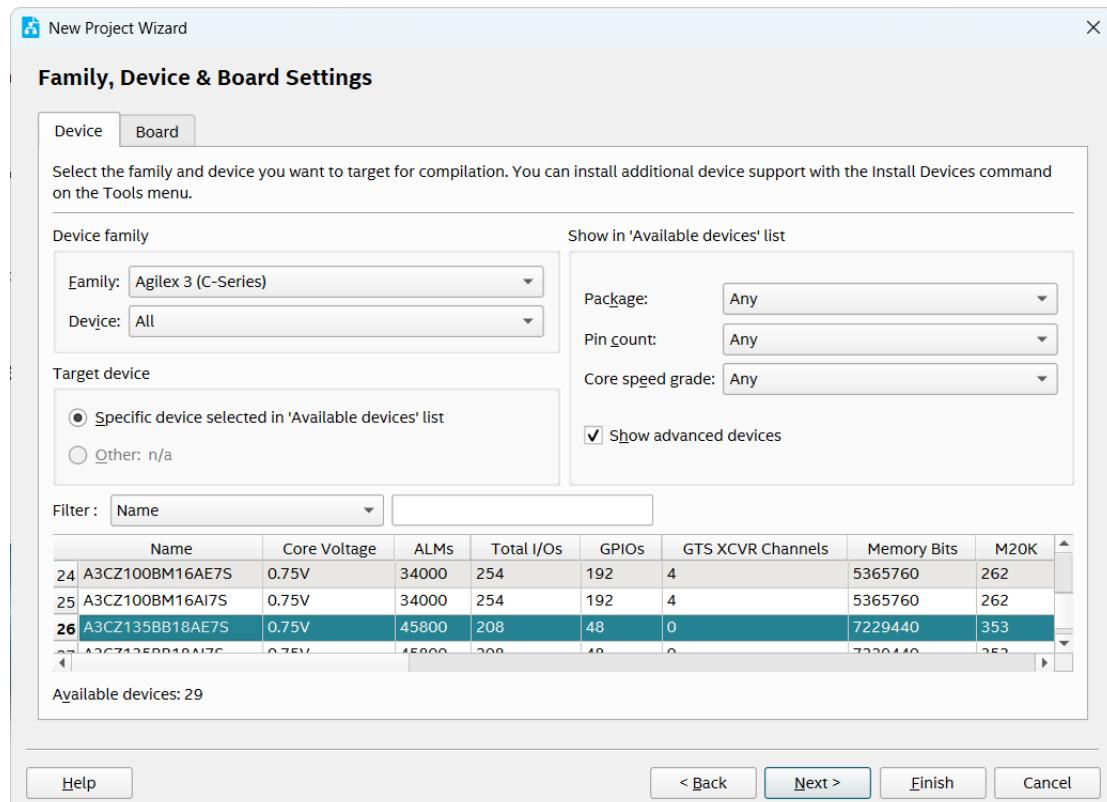

Figure 2-3 New Project Wizard: Family & Device Settings
3. We choose device family and device settings. You should choose settings the same as the **Figure 2-3**.